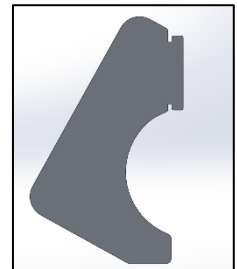

FIG.6 ACOUSTIC FIN
4. ACOUSTIC FIN. (shown in FIG. 6)